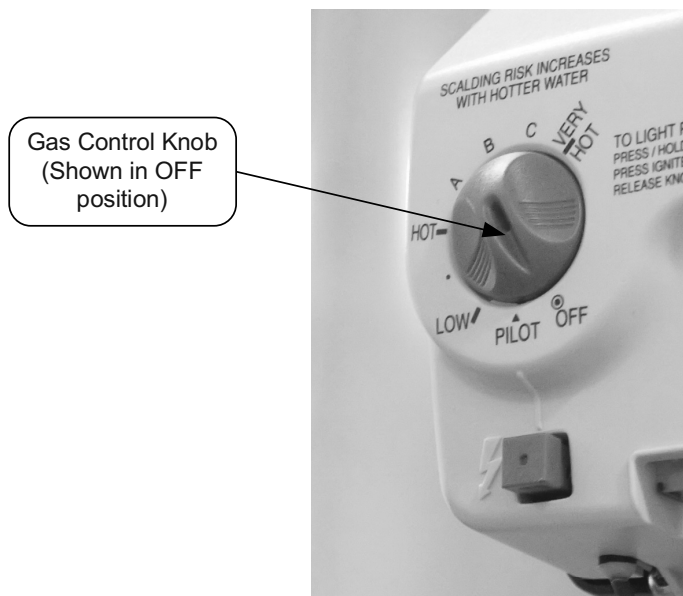

Figure 7
- Step 1. Turn off the gas supply to the water heater by rotating the gas control knob to the “OFF” position (see Figure 7).